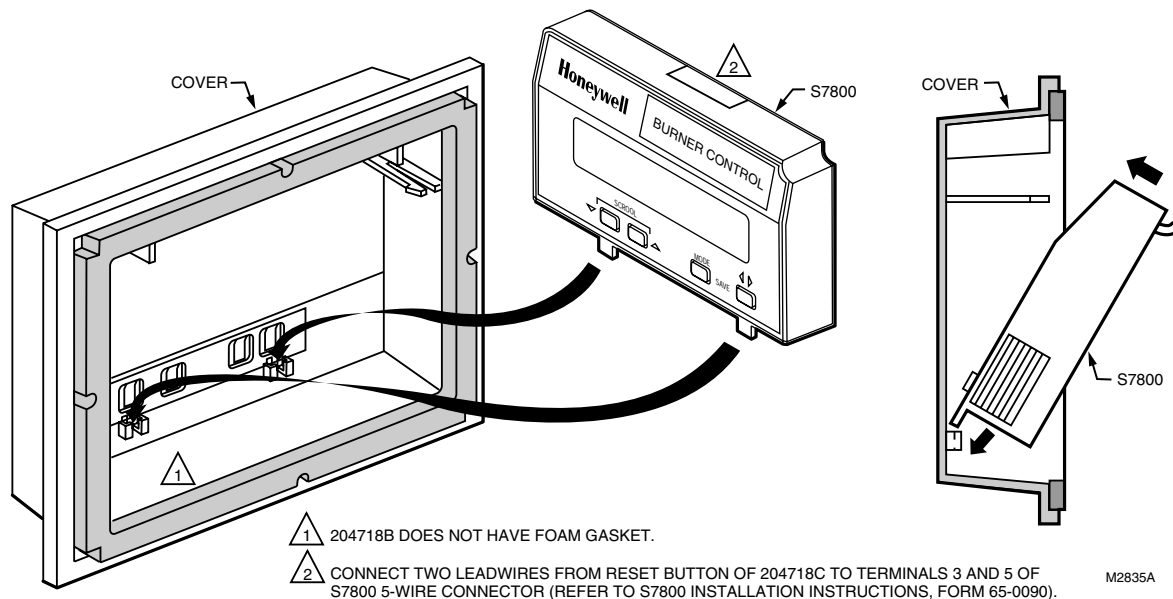

Fig. 1. Installing S7800 Keyboard Display Module in 204718 Cover Assembly.
2. Place the tabs on the bottom of the S7800 Keyboard Display Module into the slots below the scroll panel on the cover. See Fig. 1.